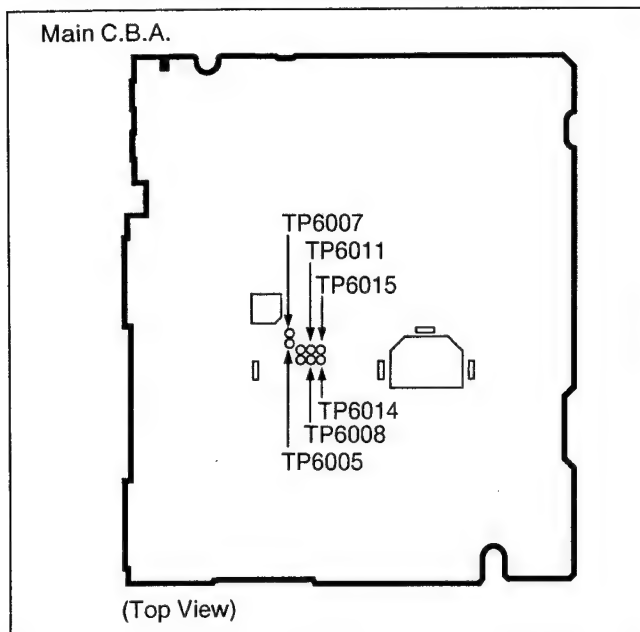

Fig. S3
- 1) Connect a jumper wire between TP6008 and TP6011 on Main C.B.A. for over 5 seconds as shown in Fig. S3.